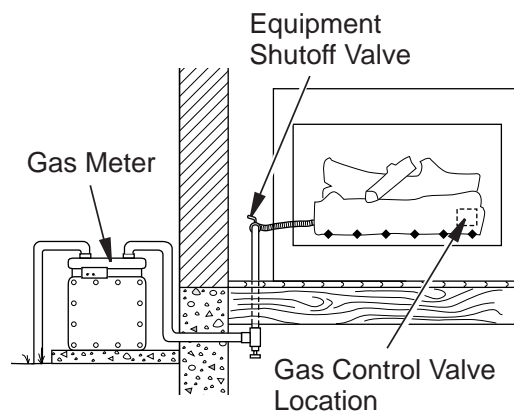

Figure 17 - Checking Gas Joints (Natural Gas Only)
1. Open equipment shutoff valve (see *Figure 17*).